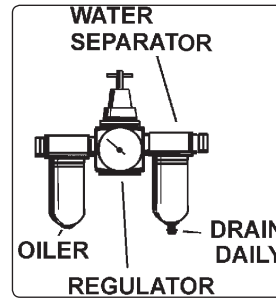

Fig.1
- 4.3. Keep the air hose between the compressor and the air jack as short as possible, and install an air filter and oiler, see fig.1.